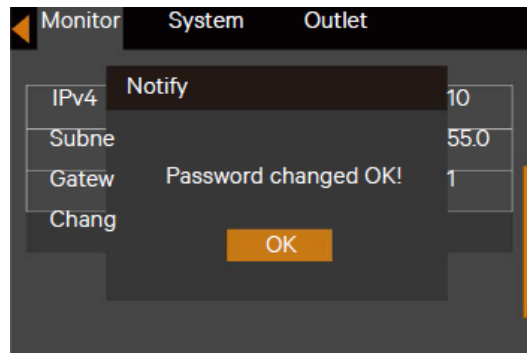

Figure 5-23 Password changed ok
6. After the confirmation, press the  key and the system prompts that the password changing is successful, see Figure 5-23.